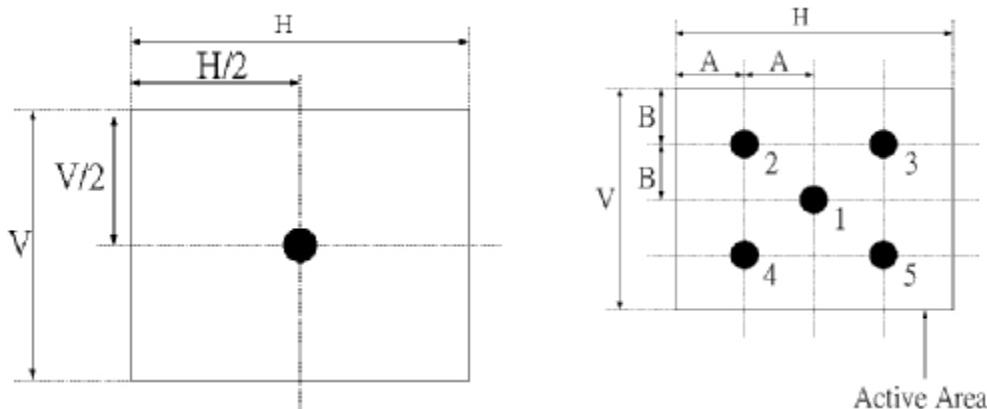

Fig.4-2 Optical measurement point
2. Surface luminance is luminance value at point 1 across the LCD surface 50cm from the surface with all pixels displaying white. From more information see FIG 4-2. When $I_{BL} = 6.5\text{mA}$, $L_{WH}=450\text{cd/m}^2$ (typ.) $L_{WH}=L_{on1}$, Where L_{on1} is the luminance with all pixels displaying white at center 1 location.